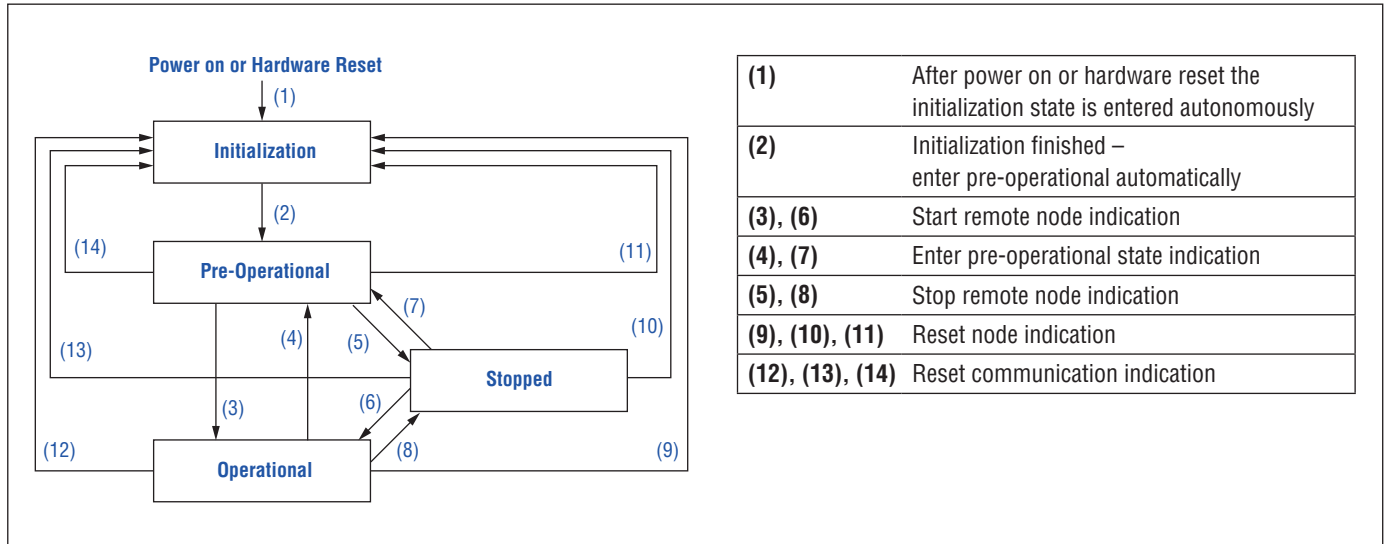

Fig. 28: CANopen state machine
In the pre-operational state communication via SDOs (chapter 5.6) is possible, while (PDO) communication is not allowed. Configuration of PDOs and device parameters may be performed. Also the emergency objects and error control service like the CANopen sensors “heartbeat message” occur in this state. The node will be switched into the operational state directly by sending a NMT “start remote node” (3) (Fig. 28).